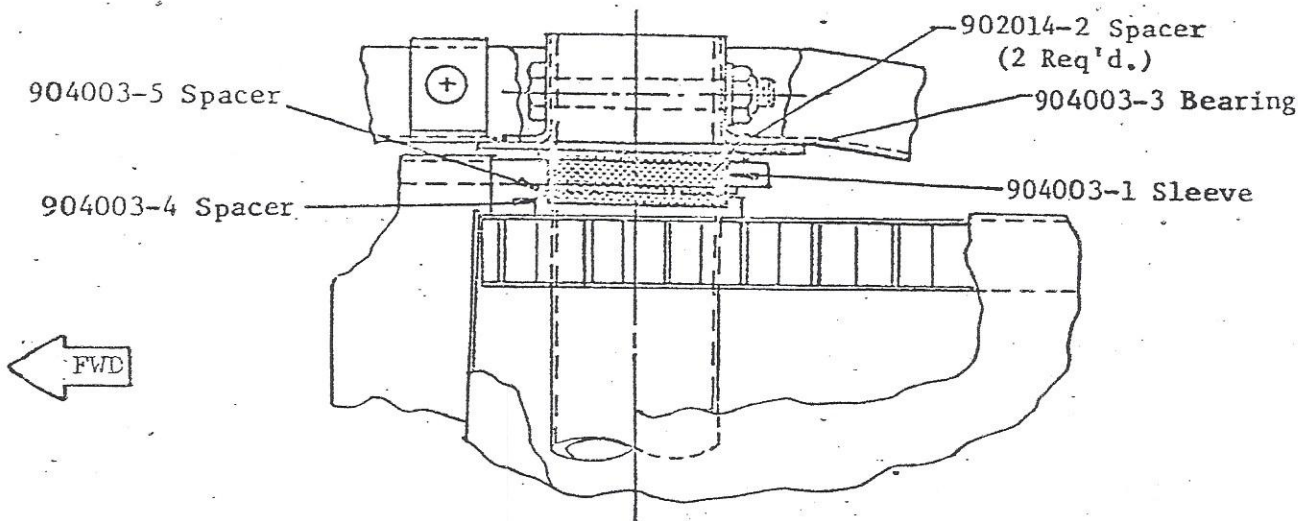

FIGURE 5. UPPER RUDDER BEARING REPAIR
11. Slide a 904003-1 sleeve (3/8" wide), in place over worn bearing surface at upper end of rudder and lock in place with "Loctite #601" or "#74 Nut Lock or equivalent. (See Figure 5).
14. Replace original spacers at upper end of rudder with larger diameter 904003 spacer (chamfered bore toward rudder rib) (1 required), and 904003-5 spacers (same quantity as removed). (See Figure 5).
16. Install upper bearing support and 902014-2 spacers (2 required), (See Figure 5).